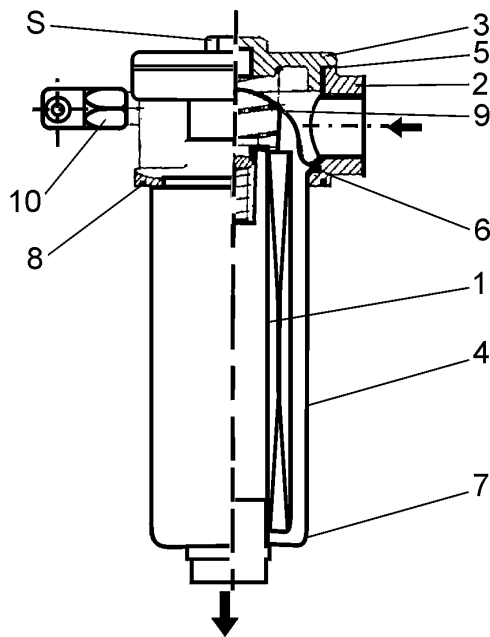

Fig. 5.37A. Hydraulic Reservoir Return Filter (CE Machine)
1. Remove cover (3) from filter header (2, Fig. 5.37A).
2. Remove old element (1) and replace it with a new one.
3. Clean the dismantled parts and install cover (3).